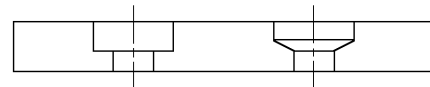

Figure 7
- 4.3.6.2 Refer to Figure 7 and carefully examine the counterbored holes in the new friction disc. One set of counterbored holes is **tapered** and designed to accept the **rivet head**, while the other set of counterbored holes is **flat bottomed** and designed to accept the **clinched end of the rivet**.
4.7.1 Slide the wear spacers (29) and clamp tubes (12) on of the studs. Reinstall the clamp tubes only, if clearnces are larger than .50" (12.7mm) as shown on Figure 7, and friction discs are not fully worn.